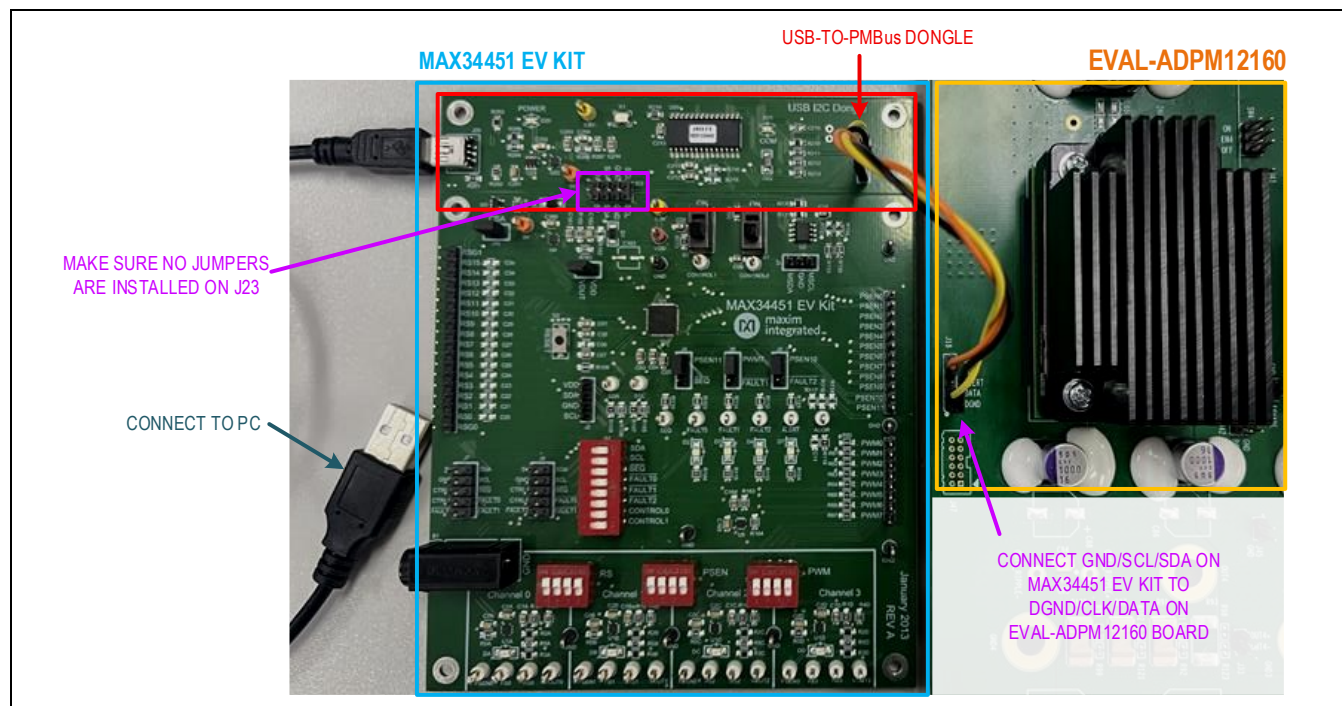

Figure 2. PMBus Connections from EVAL-ADPM12160 to PC for PMBus Communication
12. If needed, connect the MAX34451 EV kit as shown in Figure 2 for PMBus communication between the EVAL-ADPM12160 board and PC. On the MAX34451 EV kit, the power LED (D20) should be green, and the com LED (D21) should be red and slowly flash orange. When the GUI appears, the D21 should turn green.
The PMBus interface of all four modules is tied together through respective RC filters, then connected to J18; see the EVAL-ADPM12160 Schematic section for more details. Connect DGND/DATA/CLK of J18 on the EVAL-ADPM12160 board to GND/SDA/SCL of J22 on the MAX34451 EV kit for PMBus communication. Make sure that no jumpers are installed on J23 on the MAX34451 EV kit; see Figure 2 for the connections.